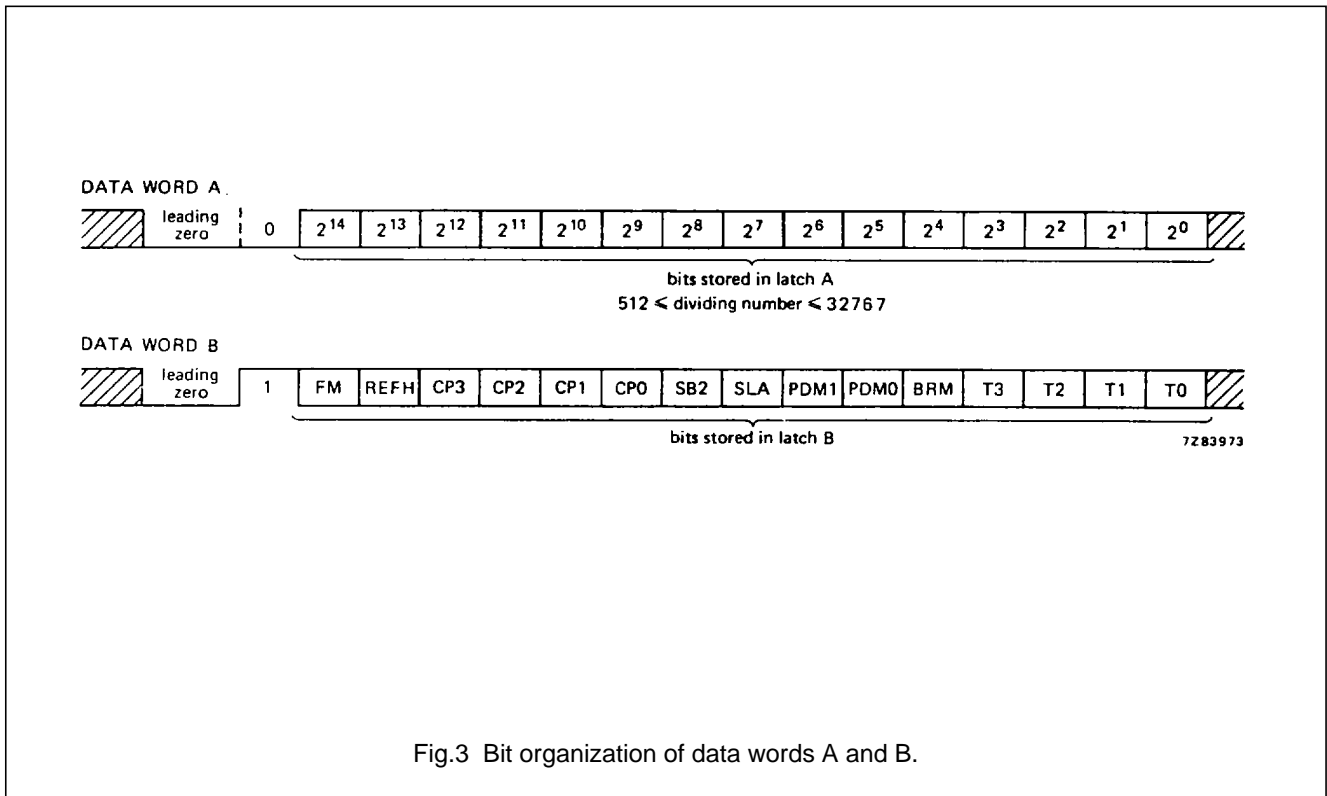

Fig.3 Bit organization of data words A and B.
- BUS; this circuitry consists of a format control part, a 16-bit shift register and two 15-bit latches. Latch A contains the to be tuned frequency information in a binary code. This binary-coded number, multiplied by the tuning spacing, is equal to the synthesized frequency. The programmable divider (without the fixed divide-by-10 prescaler for FM) can be programmed in a range between 512 and 32 767 (see Fig.3). Latch B contains the control information.
The following functions can be controlled with the data word bits in latch B. For data word format and bit position see Fig.3.